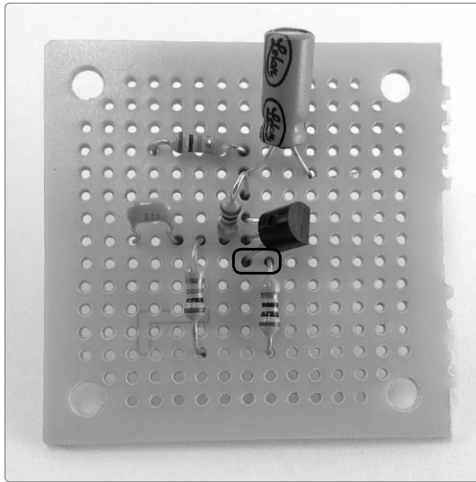

FIGURE 12-15: *Mounting and connecting the 10 ohm ground resistor*
- Step 18** Finally, mount the 10 ohm resistor (brown-black-black stripes). Bend the resistor into a *U* and run one lead into the first open hole to the right of the transistor's lower leg (also called the *emitter*). Insert the other lead into the fourth hole in that same column (see Figure 12-15). Solder the resistor lead to its pad, solder the transistor's lower leg to its pad, solder the two leads together, and clip the excess wire.